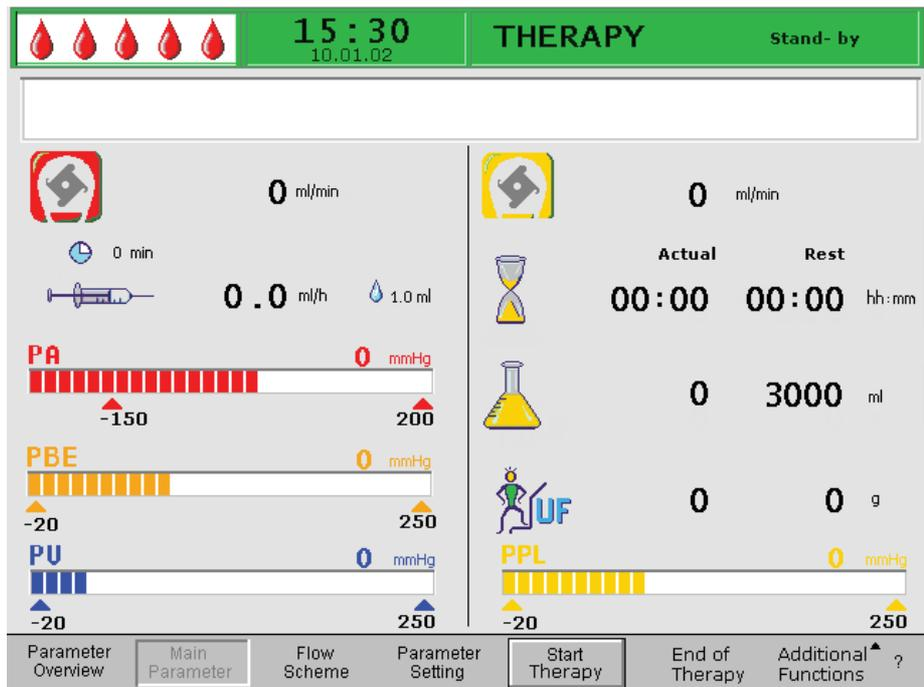

Fig. 3-11 Main parameter screen
- Main parameter screen (Fig. 3-11)
The *Main Parameter* screen (Fig. 3-11) is displayed by default.